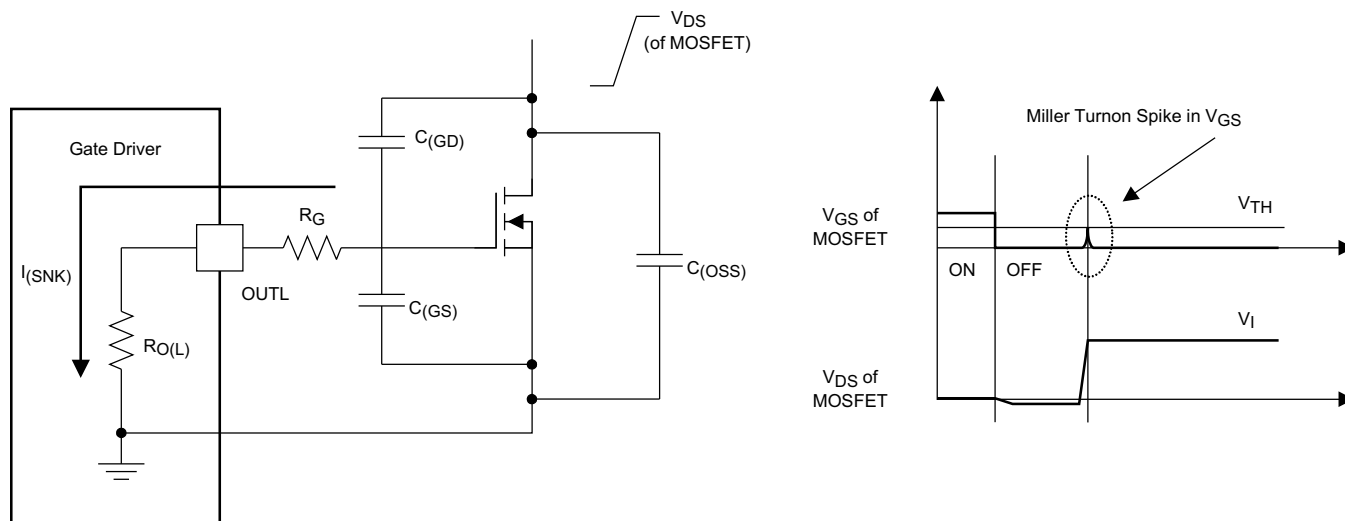

Figure 24. Very-Low Pulldown Impedance in UCC27511 and UCC27512, 4-A and 8-A Asymmetrical Drive (Output Stage Mitigates Miller Turnon Effect)
An example of a situation where the Miller turnon effect is a concern is synchronous rectification (SR). In an SR application, the dV/dt occurs on the MOSFET drain when the MOSFET is already held in off state by the gate driver. The current discharging the $C_{(GD)}$ Miller capacitance during this dV/dt is shunted by the pulldown stage of the driver. If the pulldown impedance is not low enough then a voltage spike can result in the V_{GS} of the MOSFET, which can result in spurious turnon. This phenomenon is shown in Figure 24. The UCC27511 and UCC27512 device offers a best-in-class, 0.375- Ω (typ) pulldown impedance boosting immunity against Miller turnon.